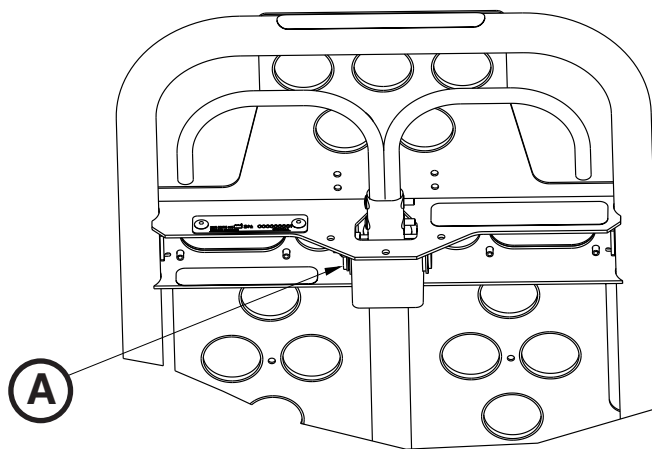

Figure 74
2. Using a 3/32" hex wrench, loosen the set screw (A) that holds the gas shaft to the yoke (Figure 74).